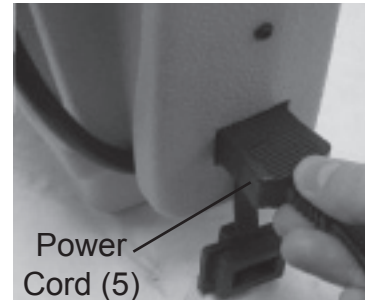

Figure 2
1. Plug the Power Cord (5) into a wall outlet and plug the female end of the Power Cord into the 120V male Charging Plug of the 120V~ Charging Port (see **Figure 2**, above).